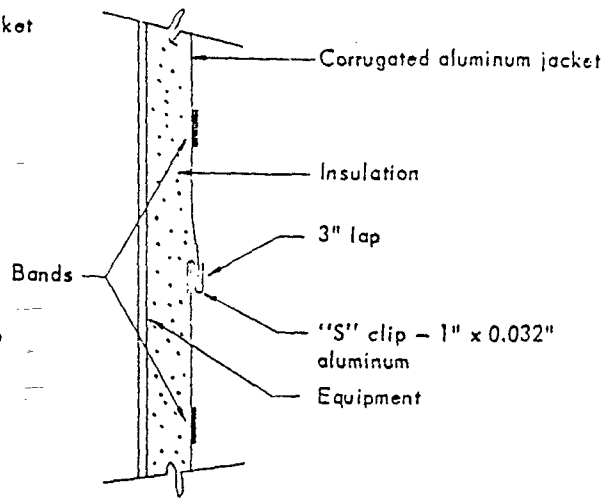

Figure 6
5.3 The sheets on vertical vessels shall be supported by using Aluminum "S" Clips, Code 978, placed on 36-inch centers. (See Figure 6.)